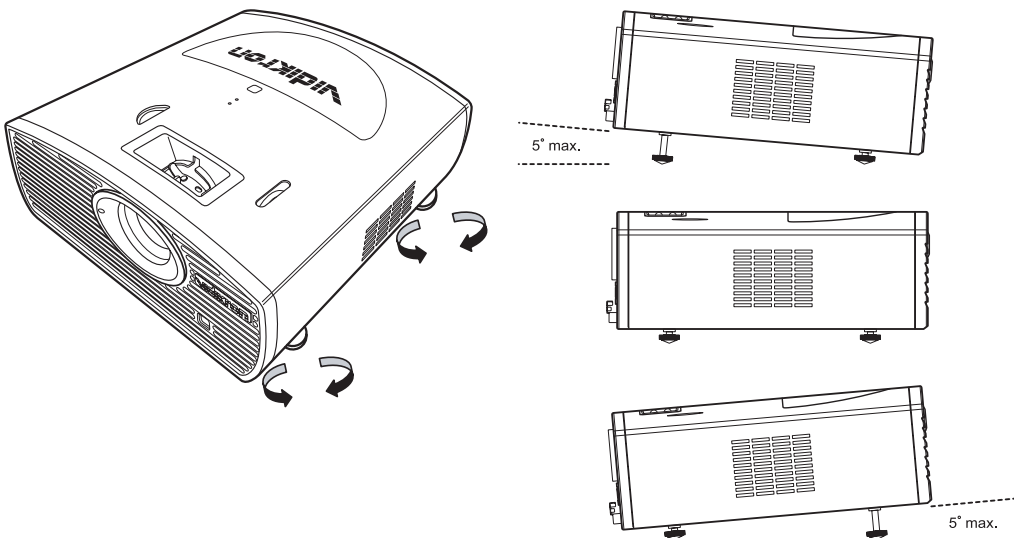

**Figure 4-1. Adjusting the Feet**
When the Vision 10/12 is installed upright, you can adjust the projector height or projection angle by turning the four adjustable feet on the bottom of the projector; see Figure 4-1. This is useful for correcting the angle of projection when the projector is placed on an uneven surface or when the screen is at an angle. You can tilt the projector up to five (5) degrees up or down by adjusting the feet.